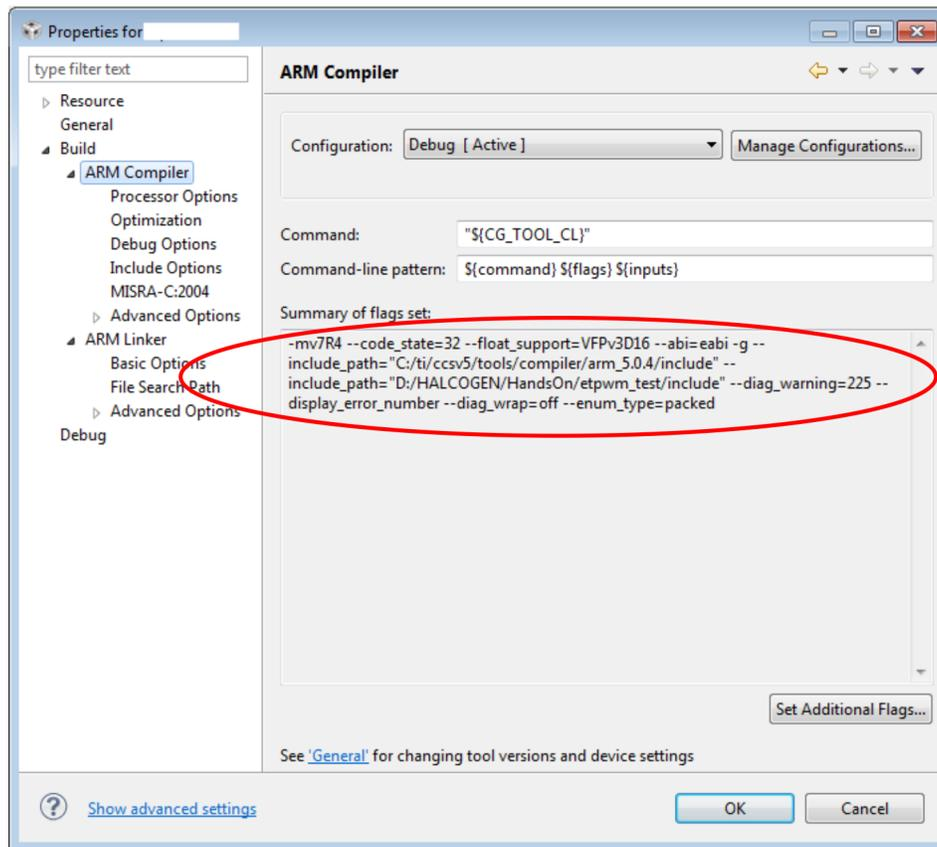

Figure 11. Compiler Option Select
1. Select compiler option (see Figure 11).